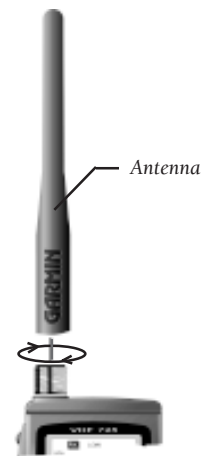

FIGURE 1
1. Carefully align the bottom of the antenna with the threaded connector on the top of the VHF 725, and screw it on the until snug against the seating surface. (Figure 1)